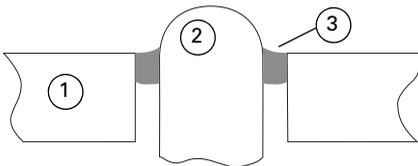

Fig. 9: Sealed LED
- 3 If an IP22 rating is required additional sealing must be applied. Apply Loctite S1595 silicone sealant around the LED, as shown in Fig. 9. Note how the sealant fills the small gap between the LED and its hole in the cover. Avoid smearing sealant over the LED surface. Using a fine nozzle is recommended.